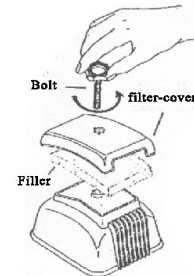

Figure 6
4. The air pump should be placed above water level to ensure no siphoning can occur if power failed (Figure6). A proper installed check valve will prevent backflow and allow placement of the pump below water surface level(Figure6A).